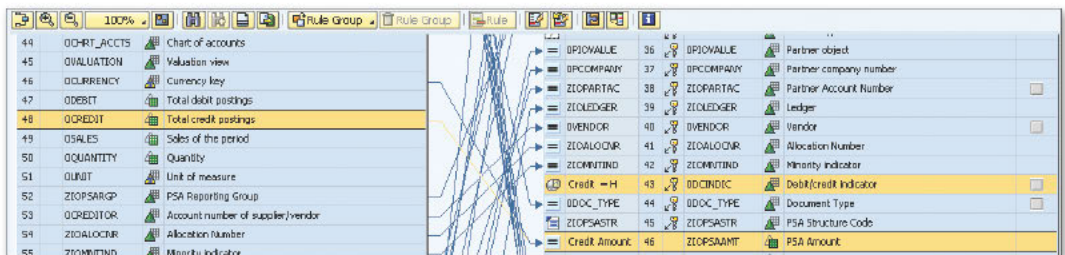

Figure 2 Mapping Rules for Credit: Map Amount to Credit
6. Map the amount field to credit from the source, and give a constant value for **DEBIT/CREDIT INDICATOR** (here, **DEBIT = H**) to differentiate between the debit amount and credit amount as shown in Figure 2.
7. Map the **OCREDIT TOTAL CREDIT POSTINGS** from the source to the amount InfoObject **ZIOPSAAMT** in the target as shown in Figure 2.